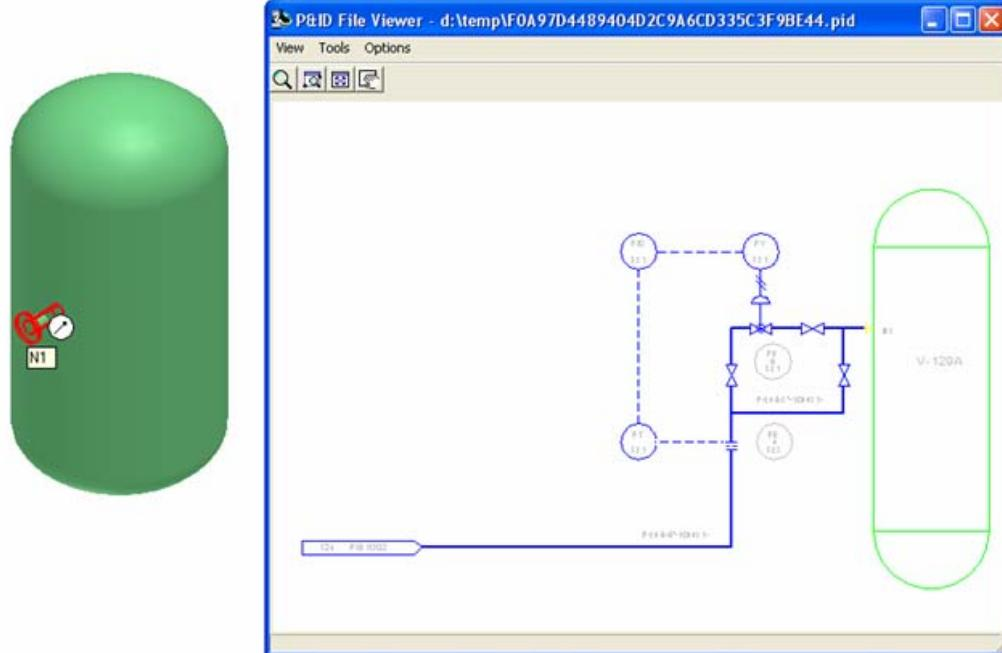

Figure 29: Selected Equipment Nozzle N1
4. Click the **Route Pipe** button on the vertical toolbar to start routing the pipe run on the equipment nozzle **N1**, as shown in Figure 29.